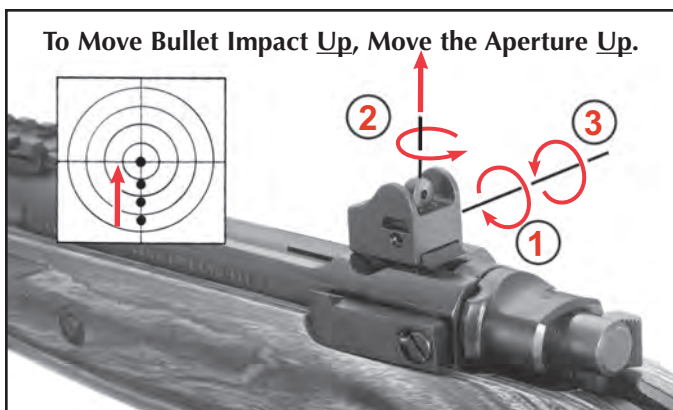

Figure 18a
2. Adjust the aperture by rotating it in half turn increments. Rotating the aperture clockwise will move the aperture down (and therefore the point of impact down as well). Rotating the aperture counter-clockwise will move the aperture up (and therefore the point of impact up). (See Figures 18a and 18b.) Rotating the aperture a single half turn (180 degrees) will move the point of impact approximately 1.25 inches at 100 yards.
3. Tighten the Combination Windage Adjustment and Locking Screw that was loosened in Step One (See Figures 18a and 18b). The Aperture will move against the other screw and will be aligned to the half turn position.